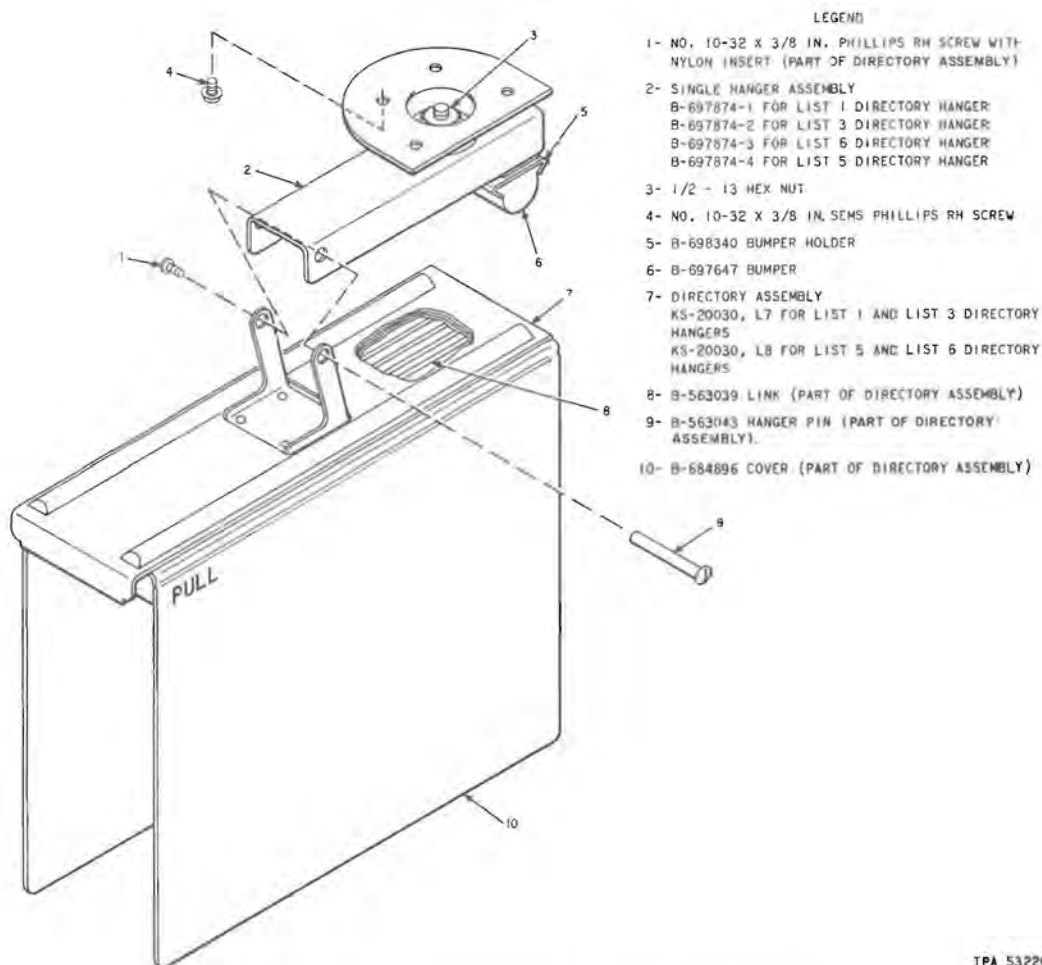

Fig. 1—KS-20030 Directory Hanger (Typical for Single Binder)
- 4.01 Maintenance of the KS-20030 directory hangers consists of replacing broken or damaged parts and lubricating bearings with KS-19589 lubricant. Refer to Fig. 1 and 2 for replacement parts.